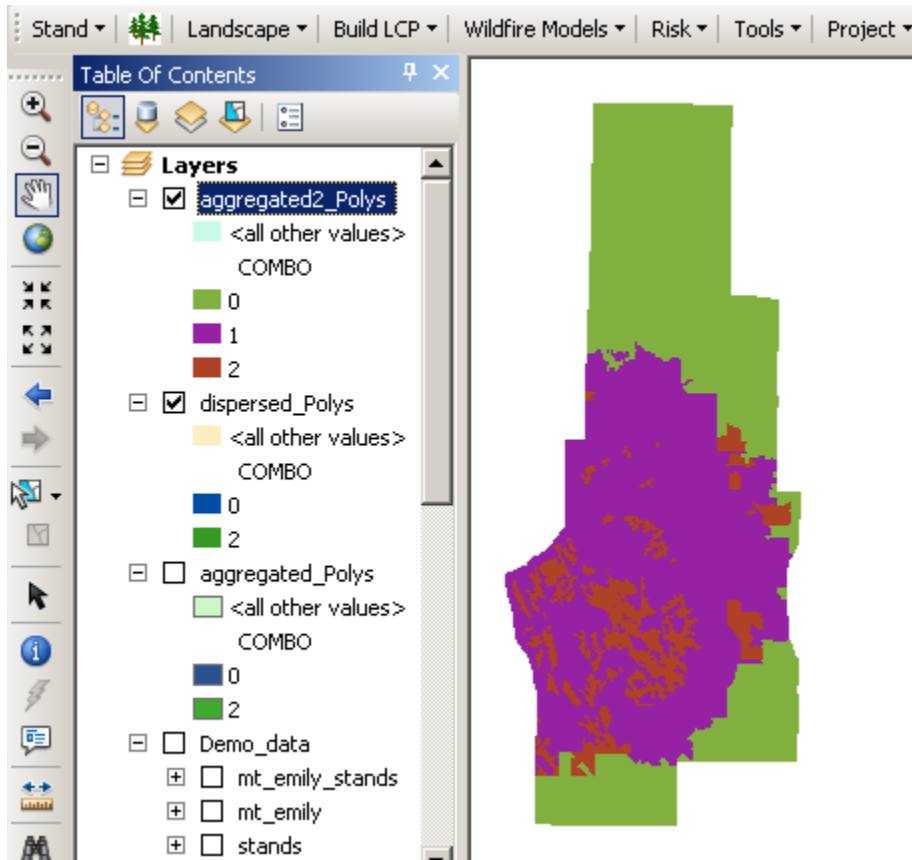

Figure 5-25—Aggregate2 solution with multiple objectives and constraints.
3) Map the solution (fig. 5-25).